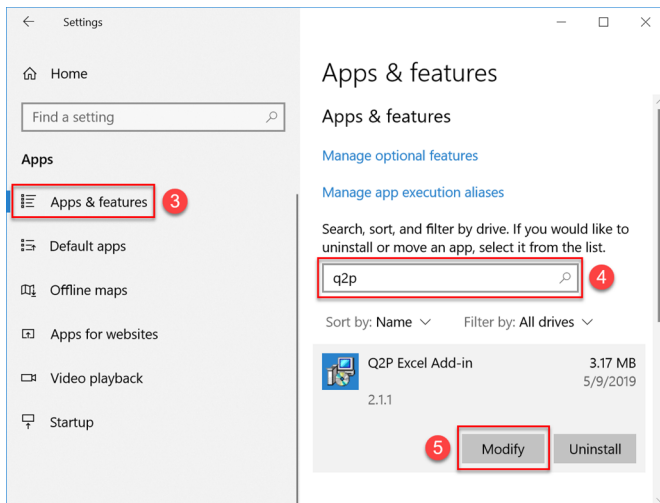

Figure 1.1 Windows "Apps & Features" menu.
3. In the next window that appears, make sure **"Apps & Features"** is selected (Figure 1.1).